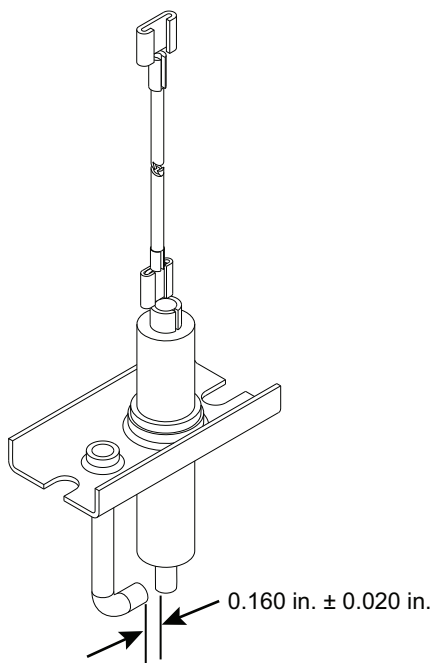

Fig. 56 — Igniter Spark Adjustment (Size 04-06)
4. Remove igniter modules from the top of the burner box assembly. Inspect and adjust the spark gap, if necessary. (See Fig. 56.)